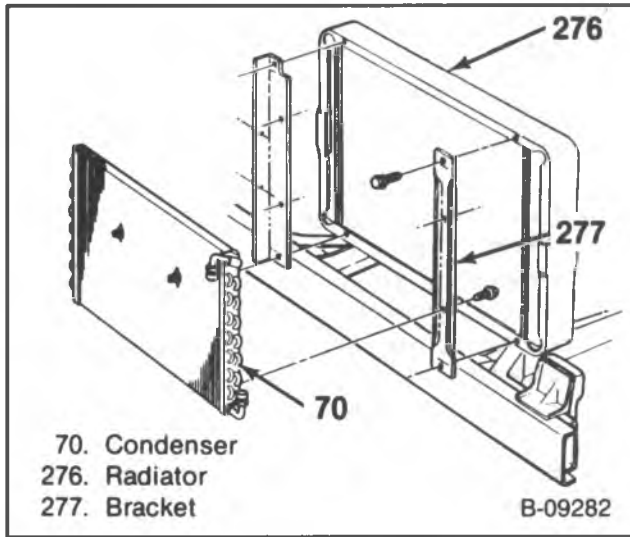

Figure 79 — P-Truck 5.7L Engine Condenser Installation
1. Condenser Mounting — refer to figures 79 and 80.